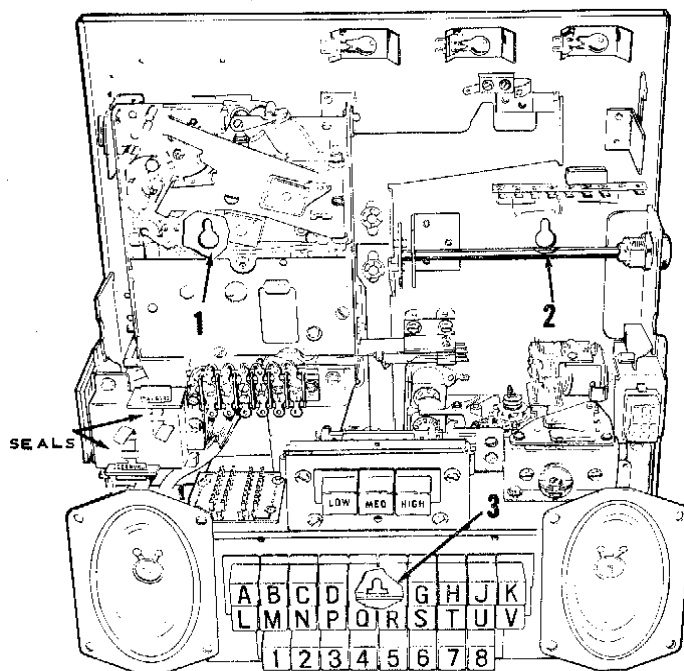

Figure 2. Interior View - Mounting and Seals.
The black and white wires of the interconnecting cable carry power to the lights and motor. The blue and black wires comprise a selection circuit to provide remote control of the selection system operation in the phonograph. The brown, red, and orange wires are for transmittal of coin deposit information to the income totalizer in the phonograph and their terminal board is covered and sealed as shown in Figure 2. The balance of wires in the cable are for audio and control of the stereo speakers in the Console.
There are three holes in the back plate for mounting, identified 1, 2 and 3 in *Figure 2*. The two upper holes are slotted for fitting over screws already set in the wall at the proper points. The lower hole is for rigidly mounting the Consolette by means of a screw, after it has been hung in place.
4. Replace the cover on the left hand terminal board; secure with two screws. Install one of the seals from the lower left side of the terminal board cover so that the serial number is right reading and fold the tab down at the score mark. Install the other seal from the upper right side of the terminal board cover and fold the tab up at the score mark. (See *Figure 2*).